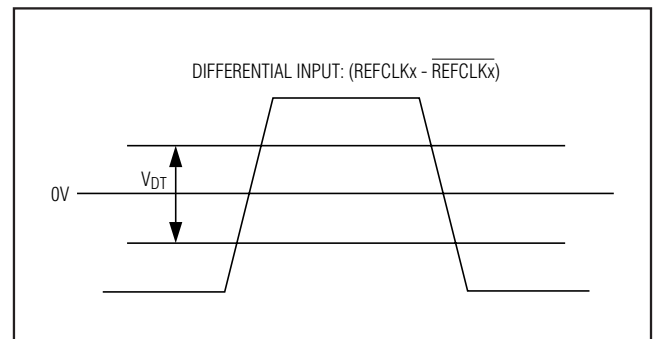

Figure 8. Input Amplitude Detection Threshold
- Input reference clock differential swing is below the clock failure assert threshold as specified in the *Electrical Characteristics*. See Figure 8.